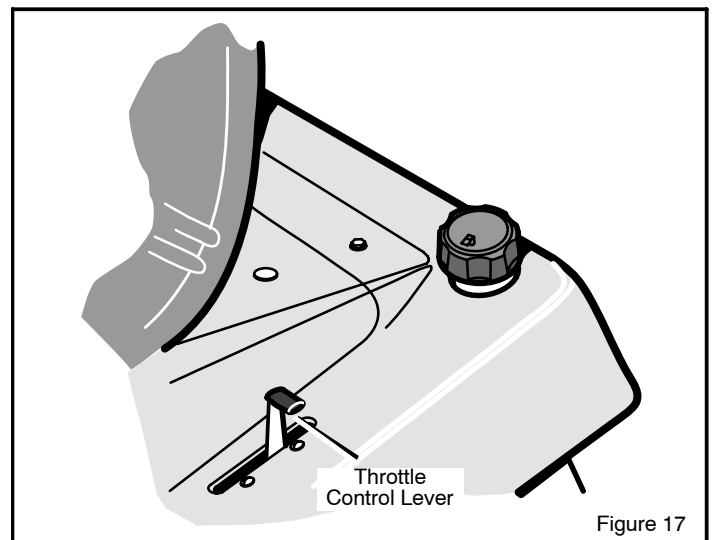

Figure 17
4. Move the throttle control completely forward to the CHOKE IN or FAST position (see Figure 17).